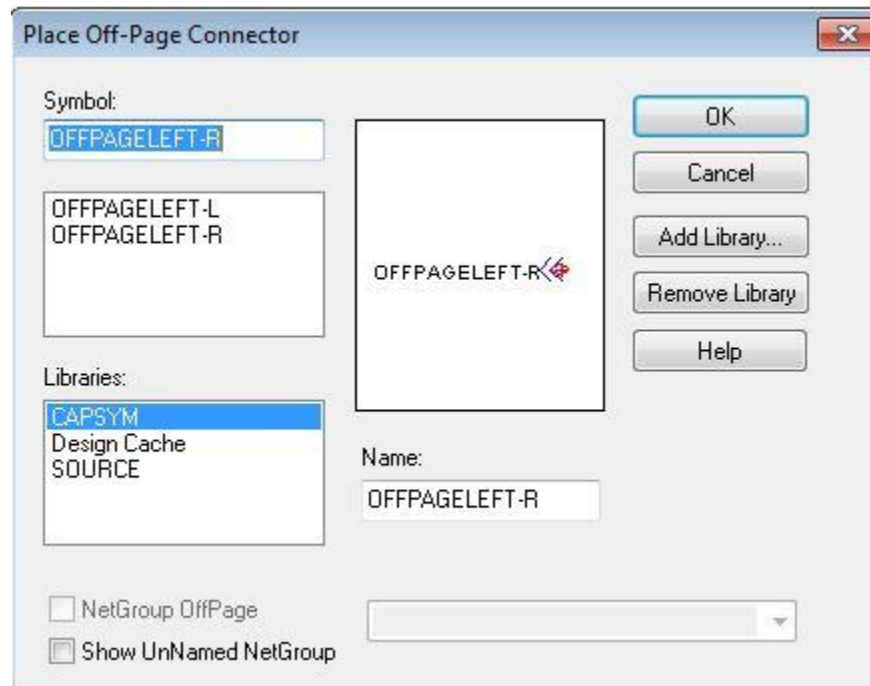

Figure 10
In cases where there are multiple pages to a schematic (which you most likely will have), there are off-page connectors to allow connections between them. There are two kinds of off-page connections: On (L) and Off (R) page (as seen in Figure 10). You can use either of the methods (Net Alias or direct connection) to connect either buses or wires to the off-page connectors.